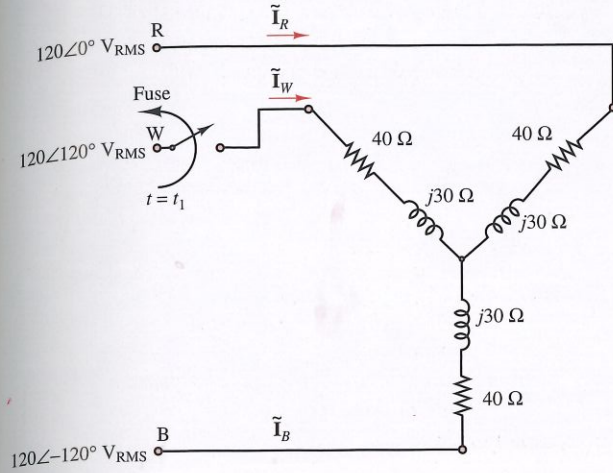

Figure P7.76
7.76 A three-phase motor is modeled by the wye-connected circuit shown in Figure P7.76. At $t = t_1$, a line fuse is blown (modeled by the switch). Find the line currents $\tilde{I}_R$, $\tilde{I}_W$, and $\tilde{I}_B$ and the power dissipated by the motor in the following conditions: